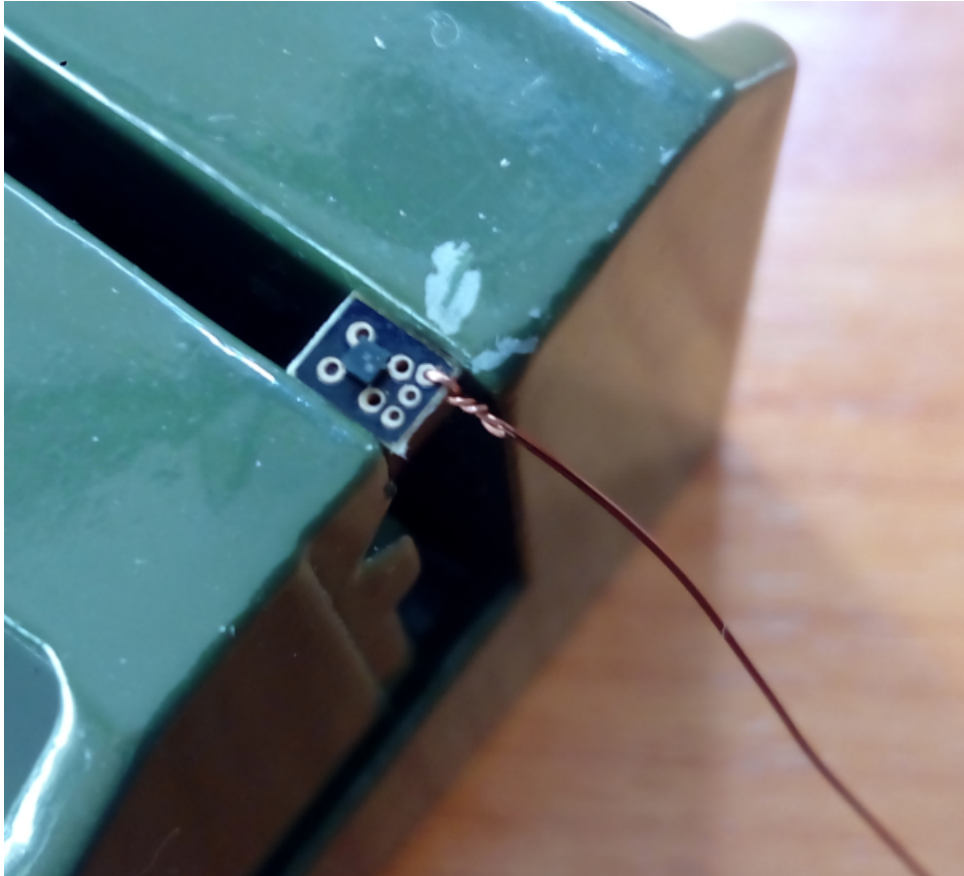

Figure 3: 1 wire prepared for soldering
- Twist the wires gently around 2-3 turns with flat tweezers, so they become tight with the board. The result is seen in Figure 3 and 4.